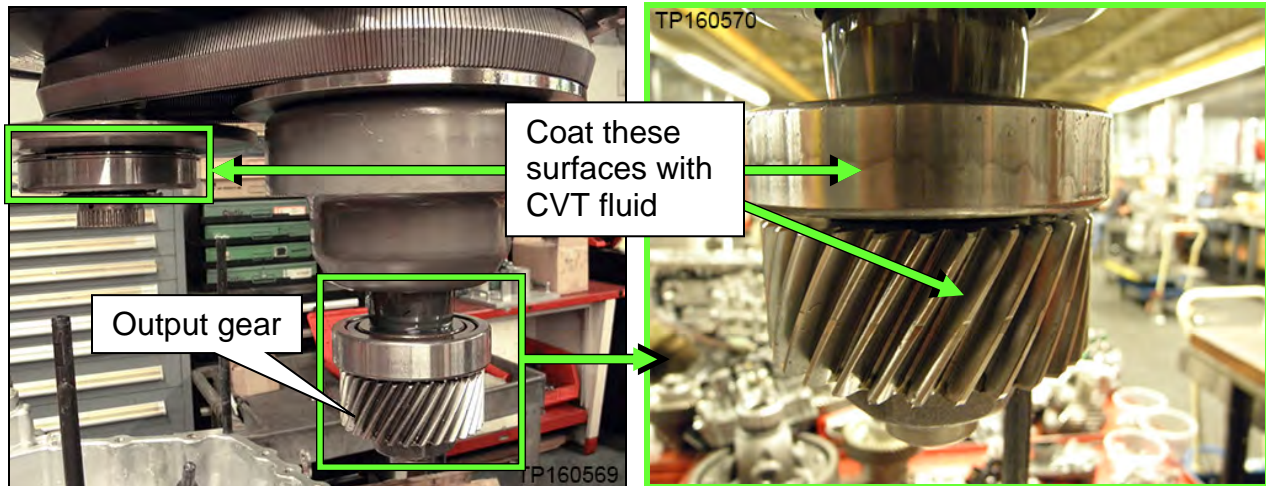

Figure 28F
24. Coat the primary pulley bearing, secondary pulley gear teeth and the secondary bearing with CVT fluid prior to installation (Figure 28F).